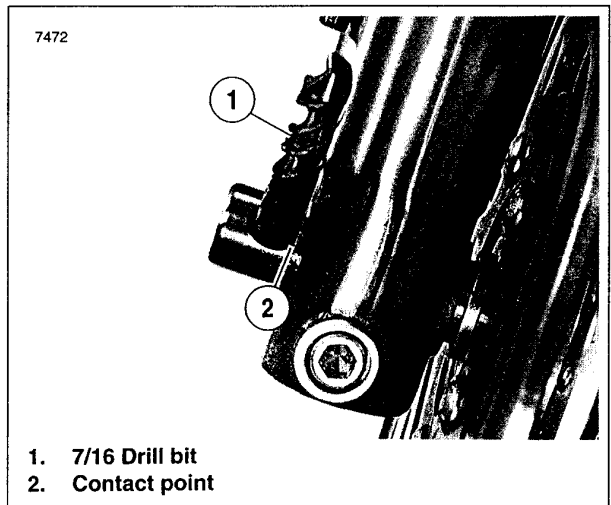

Figure 1-19. Dual Caliper Alignment
- On the right side of the vehicle, the pad with two tabs (1) installs on the inboard side of the caliper.
- On the left side of the vehicle, the pad with two tabs (1), installs on the outboard side of the caliper.
- a. See Figure 1-19. On models with dual front calipers, check alignment of brake discs to calipers. Loosen axle pinch bolt nuts. Tighten axle nut to proper torque. Insert a 7/16 in. drill bit (1) through hole in front axle as far as it will go. Contact point (2) must have edge of drill bit touching the edge of fork leg. See 2.4 FRONT WHEEL.